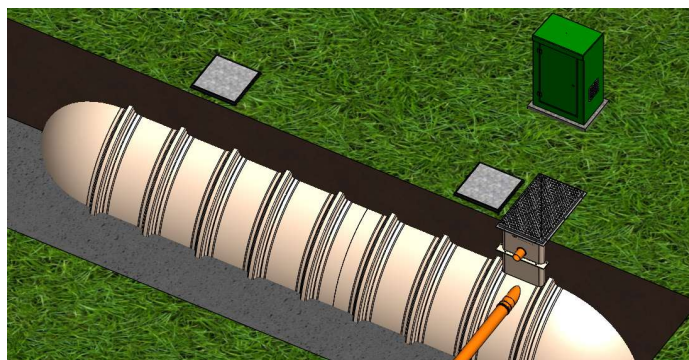

Figure 11
- 4.29. Once the unit has been correctly set up replace the pump security cover and all manhole covers to any open access shafts (Fig 11)